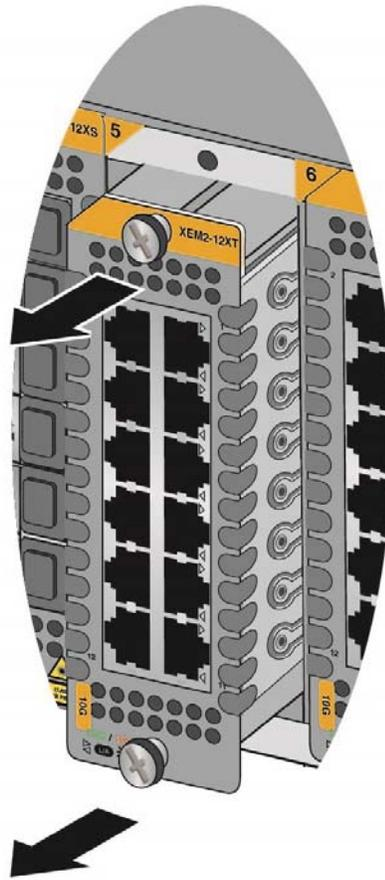

Figure 124. Disconnecting an Ethernet Line Card from the Chassis
5. Carefully pull on the screws on the faceplate to disconnect the line card from the connector on the backplane in the chassis. Refer to Figure 124 on page 206.